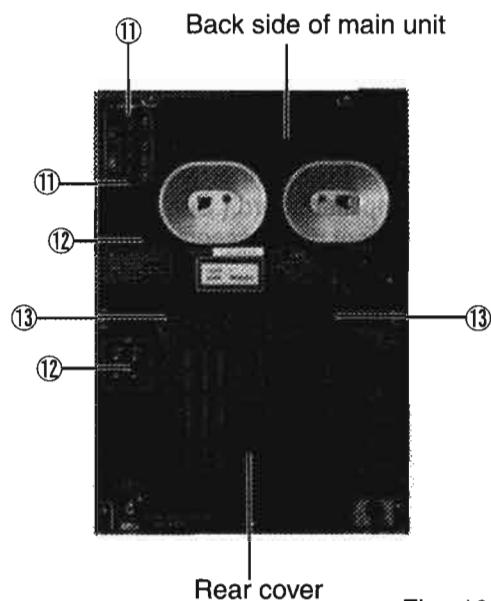

Fig. 10
■ Removal of the Tuner and Line Amplifier Boards (See Figs 10, 11)
4. Remove the two screws ⑪ fastening the tuner board to the back side of the main unit.(See Fig. 10)
5. Remove the two screws ⑫ fastening the line amplifier board to the back side of the main unit.
(See Fig. 10)
(See Figs 10,12,13)
6. Remove the two screws ⑬ fastening the rear cover to the back side of the main unit.(See Fig. 10)